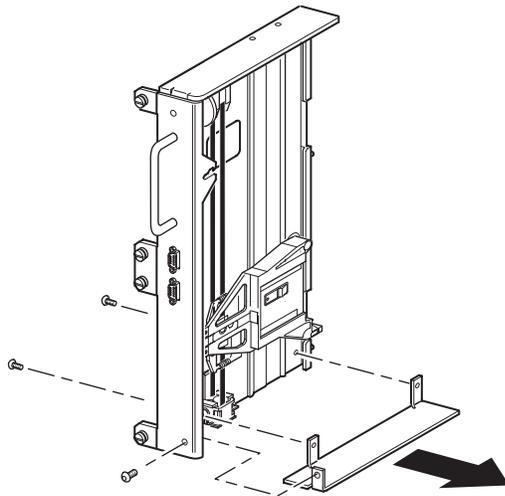

Figure 2–10: Removing the bottom plate from the PTM base unit
2. Slide the media elevator car to the top of the PTM base unit (see Figure 2–11). Note that the top of the PTM base unit has the drive motor on it.